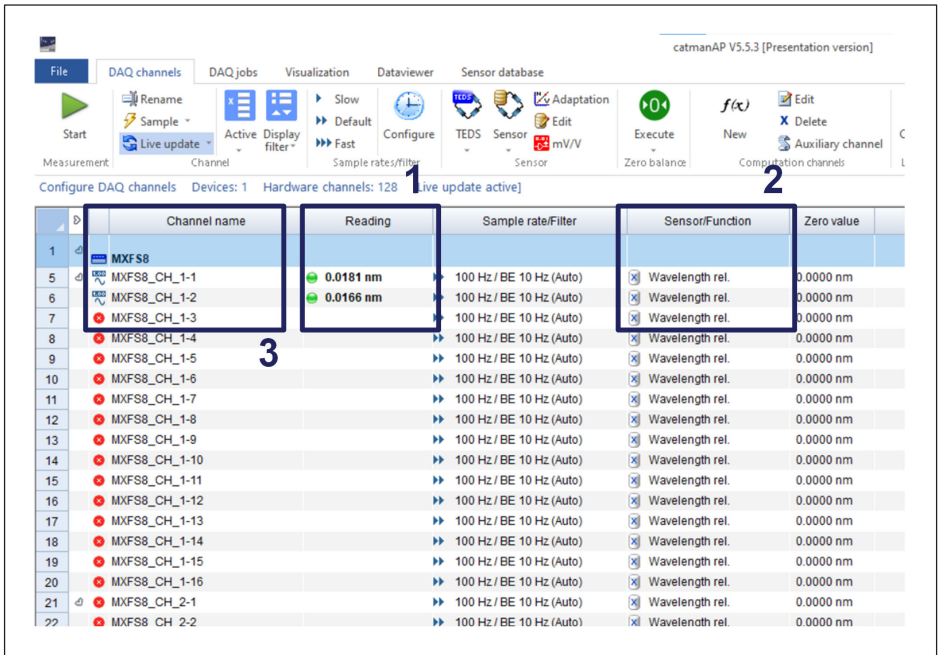

Fig. 5.3 System check and sensor identification
The sensors can be checked by applying a small force by hand to each sensor and reading the result from the DAQ Software. In this way, each “channel number – sensor pair” is identified and the functionality of the sensor verified (number 1 in Fig. 5.3)
- Ensure that all channels of the interrogator are defined as “wavelength (rel)” (number 2 in Fig. 5.3)
- Rename the sensor by double clicking on top of the channel name (number **3** in Fig. 5.3)